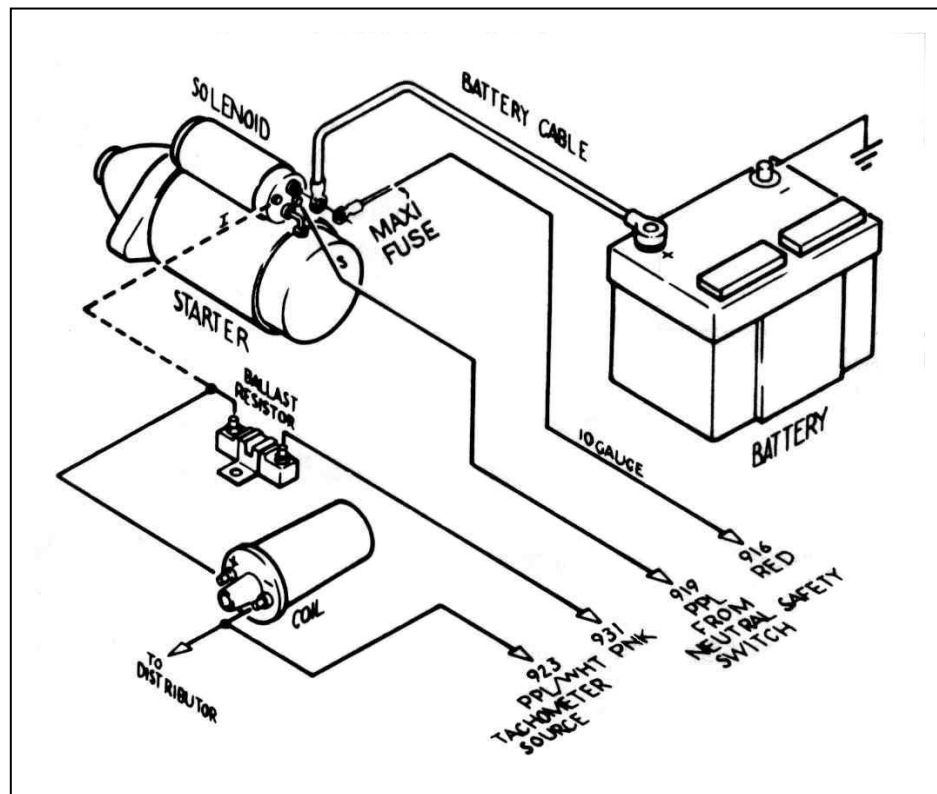

Figure 7-4 GM Ignition (Start-Run) System
7.4 GM Ignition (Start/Run) System. See Figure 7-4.
- 7.4.6** A 14-gauge wire connected from the Starter Solenoid Ignition (I) terminal to the ignition coil side of the Ballast Resistor is optional. This wire (the dashed line in **Figure 7-4**) serves as a ballast resistor BYPASS during engine starting. However, if the starter solenoid shorts out, which is not unusual, the engine will stop running and will not restart as long as this wire is connected. You may therefore choose to omit it. If you are not using a Ballast Resistor, leave the Starter Solenoid Ignition (I) terminal unconnected and do not install the bypass wire.